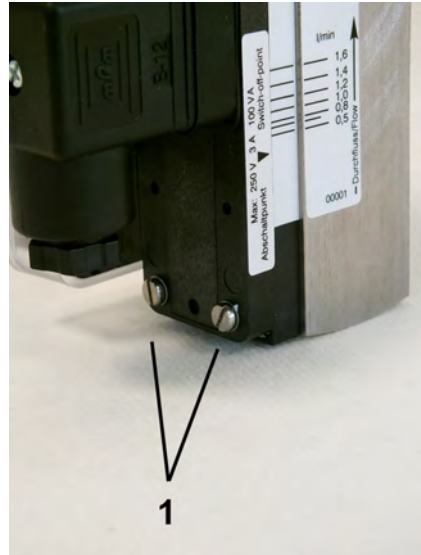

Fig. 33: Loosen set screws
1. ➔ Loosen the switch contact housing set screws (Fig. 33/1) using a flat-bladed screwdriver.
3. ➔ Re-tighten the switch contact housing set screws (Fig. 33/1) using a flat-bladed screwdriver. Observe the correct tightening torque.